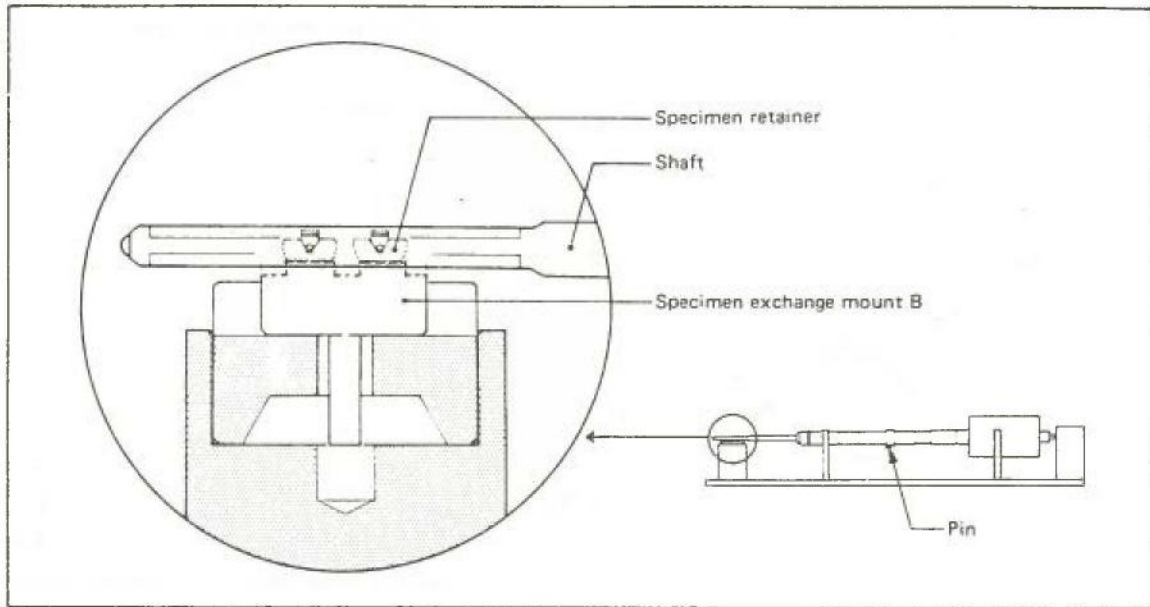

Fig. 4.3 Mounting the specimen holder on the holder stand
3. Place the specimen holder on the specimen holder stand with the holder shaft pin facing downward as shown in Fig. 4.3.
- c. Return the specimen holder to the stand (Fig. 4.3).